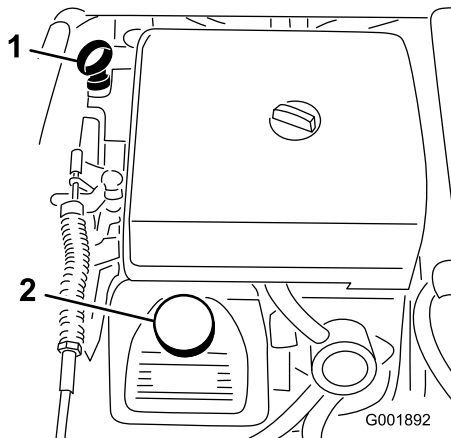

Figure 20
2. Remove the dipstick and wipe it with a clean rag (Figure 20). Insert the dipstick into the tube and make sure it is seated fully. Remove the dipstick and check the oil level.
3. If the oil level is low, remove the filler cap from the valve cover (Figure 20) and pour oil into the opening until the oil level is up to the Full mark on the dipstick; refer to Servicing Engine Oil, in the Engine Maintenance section, for the proper oil type and viscosity. Add the oil slowly and check the level often during this process. Do not overfill.